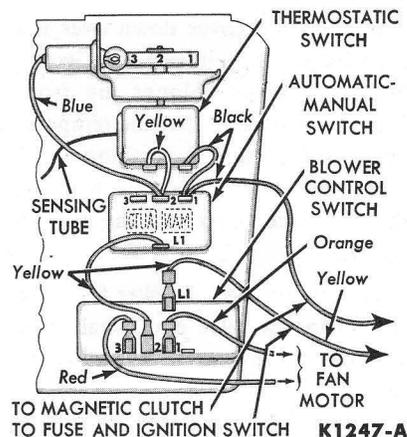

FIG. 17—Thermostatic Switch Wiring
5. When installing the new switch to the actuator assembly, engage the switch shaft with the actuator, then attach the switch mounting screws. Attach the wires to the thermostatic switch (Fig. 17).